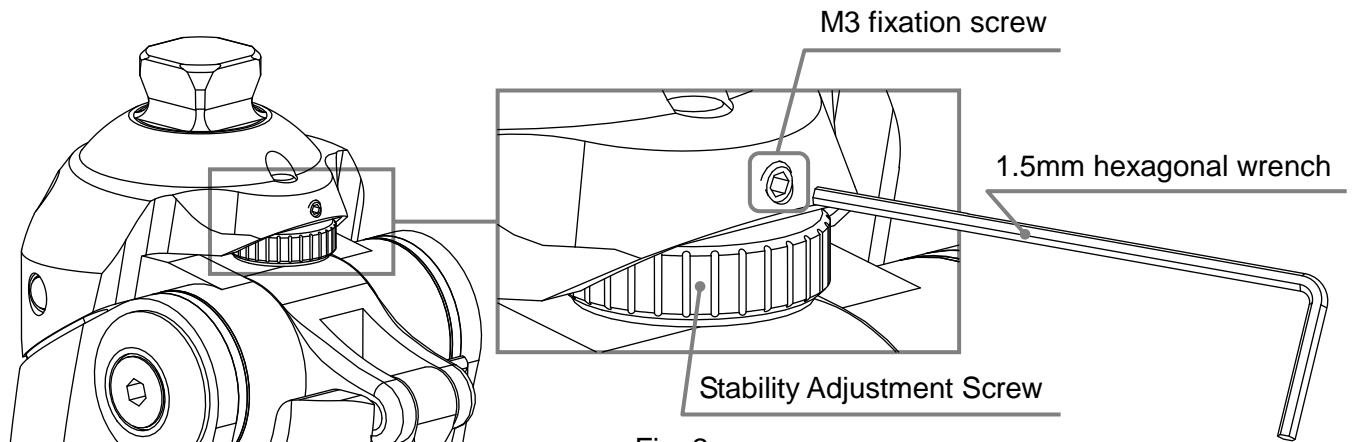

Fig. 2.
- ① Loosen M3 fixation screw using attached 1.5mm hexagonal wrench (Fig. 2).